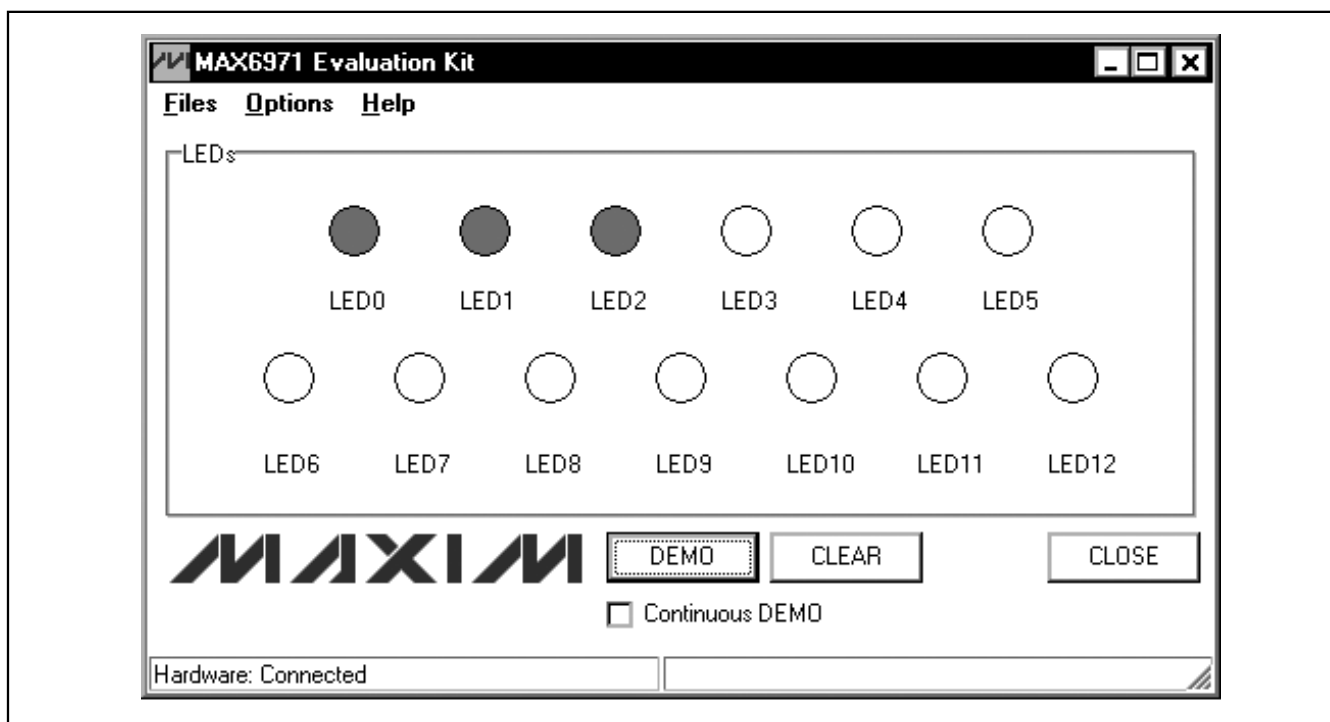

Figure 1. MAX6971 EV Kit Software Main Window
- 6) Start the EV kit software by opening its icon in the **Start | Programs** menu. The EV kit software main window should appear as shown in Figure 1.
The main window of the evaluation software (Figure 1) displays the state of each LED on the EV kit. Click the **LED0–LED12** icons located in the main window to turn